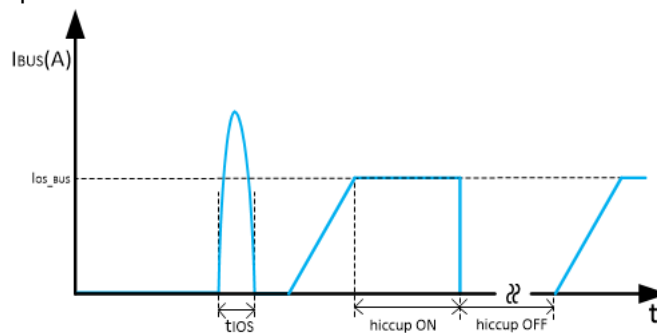

Figure 10-11. Response Time to BUS Short-Circuit
- The first condition is when a short circuit or overload is applied to the USB output when the device is powered up or enabled. There can be inrush current and once it triggers the approximate 8-A threshold, a fast turnoff circuit is activated to turn off the USB power switch within $t_{\text{OS_USB}}$ before the current limit control loop is able to respond (shown in Figure 10-11). After the fast turnoff is triggered, the USB power switch turns off for approximately 200 μs , and restarts with a soft start. If the USB port is still in overcurrent condition, the short circuit and overload hold the output near zero potential with respect to ground and the power switch ramps the output current to $I_{\text{OS_BUS}}$. If the overcurrent limit condition lasts longer than 4.1 ms, the corresponding USB channel enters hiccup mode with 524 ms of off-time and 4.1 ms of on-time.